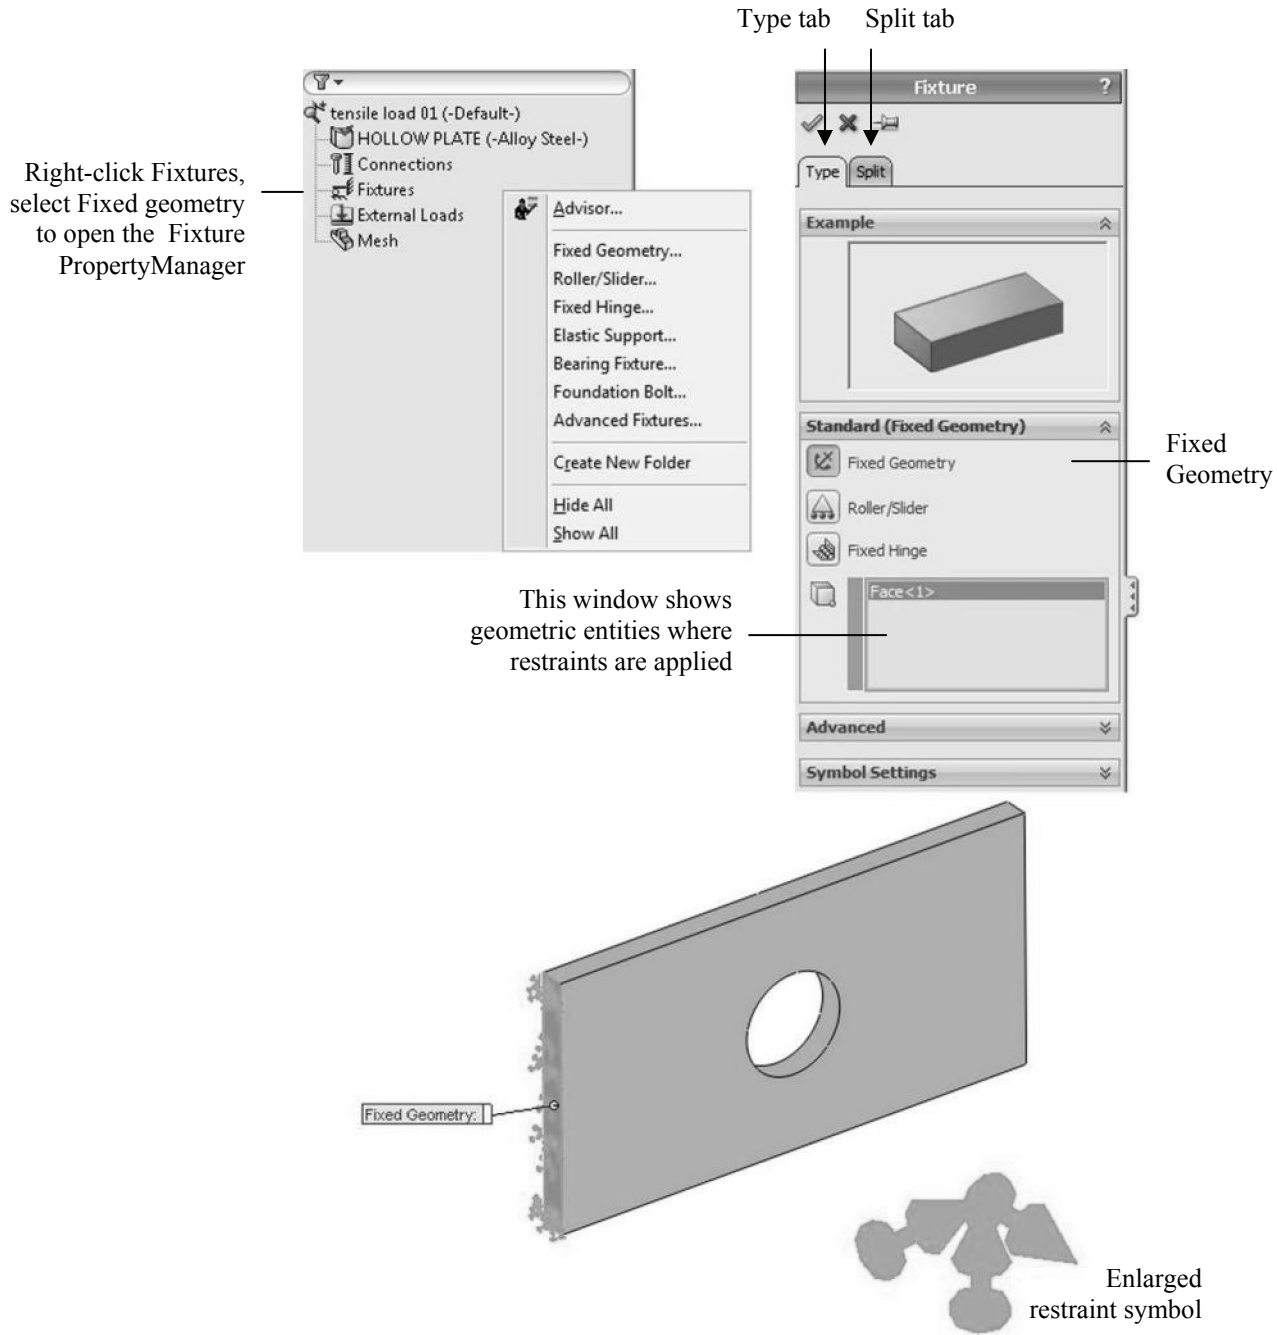

Figure 2-10: Pop-up menu for the Fixtures folder and Fixture definition window (Fixture PropertyManager).
Having assigned the material, we now move to defining the restraints. To display the pop-up menu that lists the options available for defining restraints, right-click the *Fixtures* folder in the *tensile load 01* study (Figure 2-10).
The existence of restraints is indicated by the symbols shown in Figure 2-10. The size of a symbol can be changed in **Symbol Settings** in the **Fixture** window. Notice that symbols shown in Figure 2-10 are distributed over the highlighted face, meaning the entire face has been restrained. Each symbol consists of three orthogonal arrows symbolizing directions where translations have been restrained. Each arrow has a disk symbolizing that rotations have also been restrained. The symbol implies that all six degrees of freedom (three translations and three rotations) have been restrained. However, the element type we will use to mesh this model (second order solid tetrahedral element) has only translational degrees of freedom. Rotational degrees of freedom can't be restrained because they don't exist in this type of element. Therefore, disks symbolizing restrained rotations are irrelevant in our model. Please see the following table for more explanations.
- Right-clicking the *Fixtures* folder and selecting **Hide All** or **Show All** in the pop-up menu shown in Figure 2-10, or